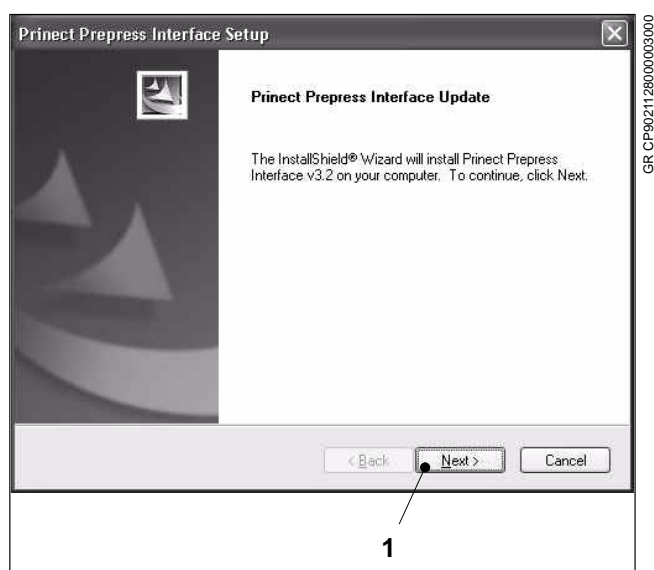

Fig. 16 The *Prinect Prepress Interface Setup* dialog window
After a short time, the first dialog window of the installation program is displayed automatically (Fig. 16).
5. Click on *Next* (Fig. 16/1) to continue the installation procedure.